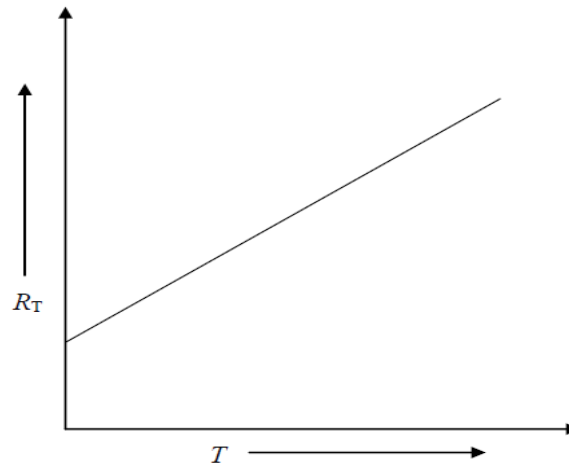

Figure 3: Graph showing change in resistance with temperature
The temperatures T_1 and T_2 are constant when the apparatus is in steady state. Then the rate of heat conducted through the brass disc must be equal to the rate of heat loss due to cooling from the bottom of the brass disc by air convection. By measuring how fast the brass disc cools at the steady state temperature T_1 , the rate of heat loss can be determined. It shown in figure 3. If the disc cools down at a rate, $\frac{dT}{dt}$ then the rate of heat loss is given by:
4. Heat the sample rod using a heater or boiling water bath for a sufficient time to reach a steady state. Take out the sample rod, hang it using a string and stand. Insert the thermo couple or thermometer into the groove as shown in Figure 3.